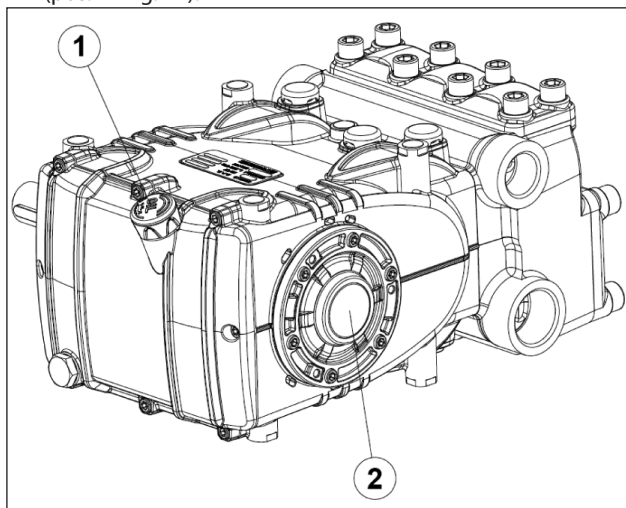

Fig. 14
5. Oil in the pump casing is at level, verified with a dipstick (pos. ① Fig. 14) and exceptionally with a level indicator (pos. ② Fig. 14).